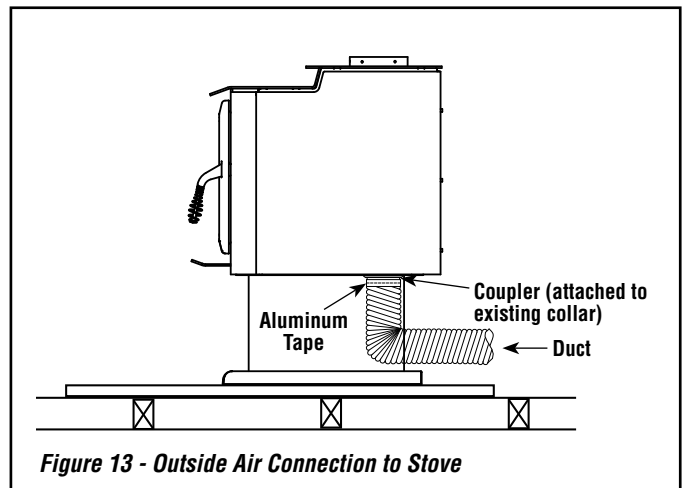

Figure 13 - Outside Air Connection to Stove
(refer to Figures 13, 14 and 15)
- Attach the duct to the coupler on stove (*see Figure 13*). Using the aluminum tape provided, wrap the tape around the joint between the flexible duct and the air inlet.